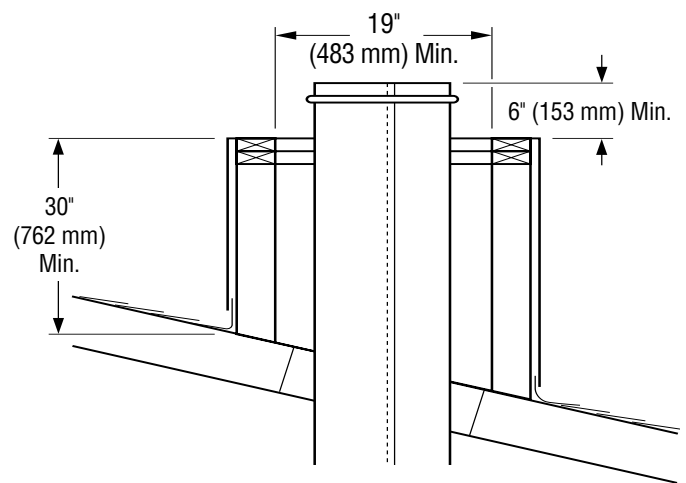

Figure 25 - Constructing Chase
1. Construct chase as illustrated in Figure 25. **Note:** The shortest vertical side must be at least 30" high and the minimum inside dimension must be at least 19" as shown in Figure 25.
2. Add pipe sections to chimney system as outlined in fireplace installation instructions until the last piece of chimney is a minimum of 6" above chase top (see Figure 25).